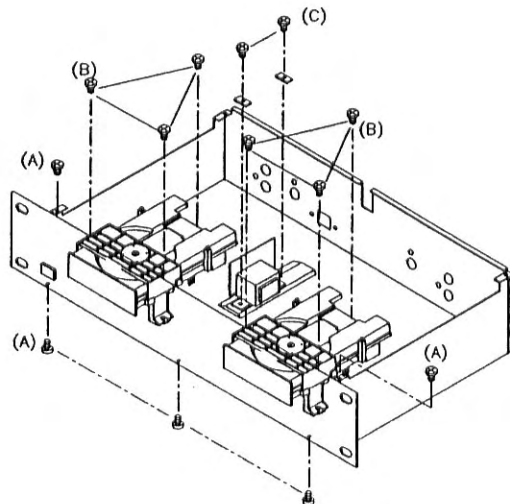

Fig.2
2. REMOVAL OF FRONT PANEL AND CD MECHANISM AND TRANSFORMER PCB(Fig.2)
- (A) REMOVAL OF FRONT PANEL.